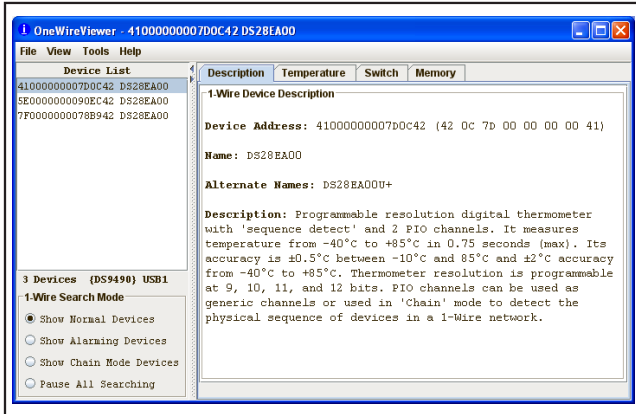
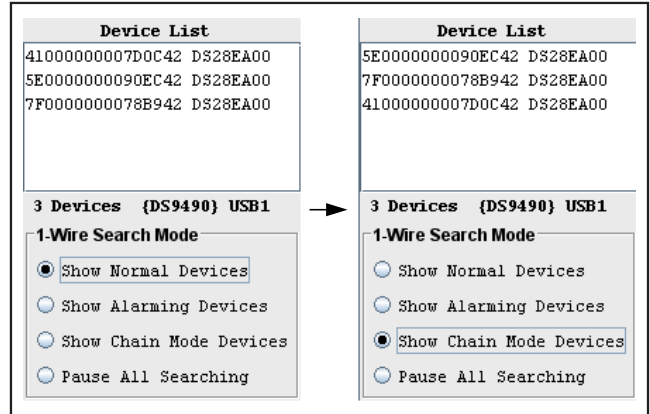
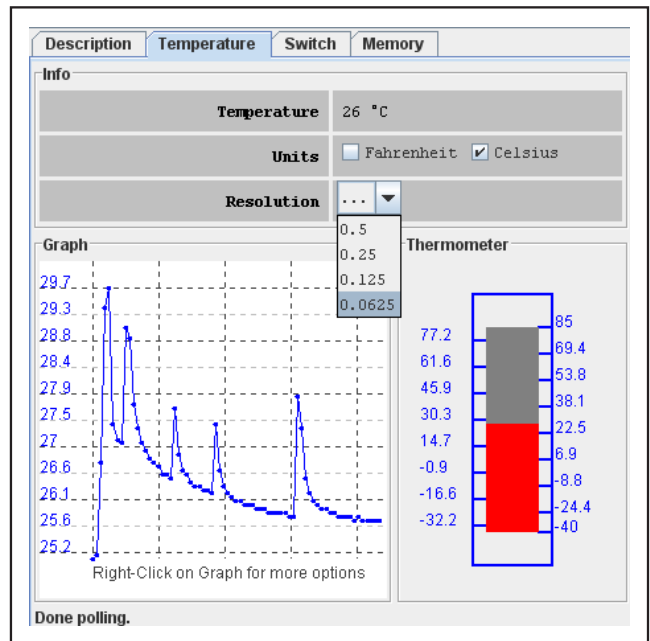

Figure 3. OneWireViewer Main Window
Figure 4. Normal- vs. Chain-Mode Searching in the OneWireViewer
Figure 5. OneWireViewer Function Tabs: Temperature
See the OneWireViewer's main window in Figure 3. Note that it is made up of three sections:
- 1) **Device List.** The device list shows the 1-Wire network addresses of all 1-Wire parts connected on the specified 1-Wire network, along with the part number. For this EV board, it lists all three DS28EA00s. Figure 3 shows three DS28EA00s on the network.
- 2) **Search Mode.** Three search modes, along with **Pause All Searching**, are listed in the lower left-hand corner of Figure 3. The **Show Normal Devices** mode is actually a binary tree search, so the device order in the device list does not indicate physical connection sequence. **Show Alarming Devices** is a search mode that finds alarming devices, such as a DS28EA00 whose temperature is above the high-temperature alarm trip point or below the low-temperature alarm trip point. Finally, **Show Chain Mode Devices** is a search mode that orders the device list of the OneWireViewer in order of physical connection sequence. If a nonchain-mode device is connected to the network, it does not participate in the search and does not show up in the device list. See an example of chain-mode searching in Figure 4.
See Figure 4 for two screenshots of the OneWireViewer's device list. Keep in mind that chain-mode searching arranges the device list of the OneWireViewer in order of physical connection sequence, and normal-mode searching arranges the device list in the order of the 1-Wire search algorithm. The first screenshot shows normal-mode searching and the second shows chain-mode searching. Notice how the device list rearranges when selecting the different 1-Wire search modes.
The **Description** tab is shown in Figure 3. It is present for any selected 1-Wire device and just gives a textual overview of the part's features and specs. The **Temperature**, **Switch**, and **Memory** tabs are described in the following sections and shown visually in Figures 5, 6, and 7, respectively. For detailed documentation on the DS28EA00's temperature, memory, and PIO (switch) operation, refer to the DS28EA00 data sheet: [www.maxim-ic.com/DS28EA00](http://www.maxim-ic.com/DS28EA00).
As seen in Figure 5, the OneWireViewer's **Temperature** function tab is made up of three sections: **Info**, **Graph**, and **Thermometer**. The info section displays the most recently sampled temperature, gives the user a choice